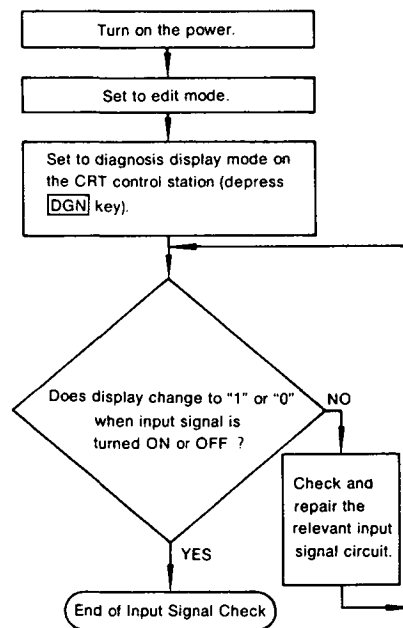

Fig. 11.3 Checking of Input Signals
- (1) Check by input signal monitor lamps of motion module. Refer to Par. 10.2 "INDICATION FOR MOTION MODULES".
- (2) Check on the CRT of control station. See Fig. 11.3.